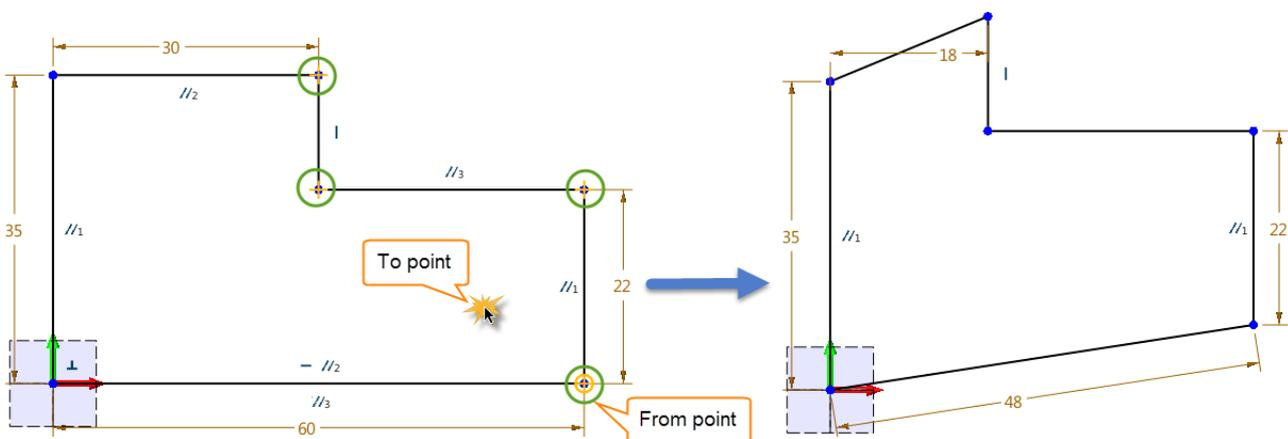

Figure 70 Stretch the Points
STEP 01 Window pick the critical points to be stretched. See the Figure 70, four points are selected, which are marked in green circles.